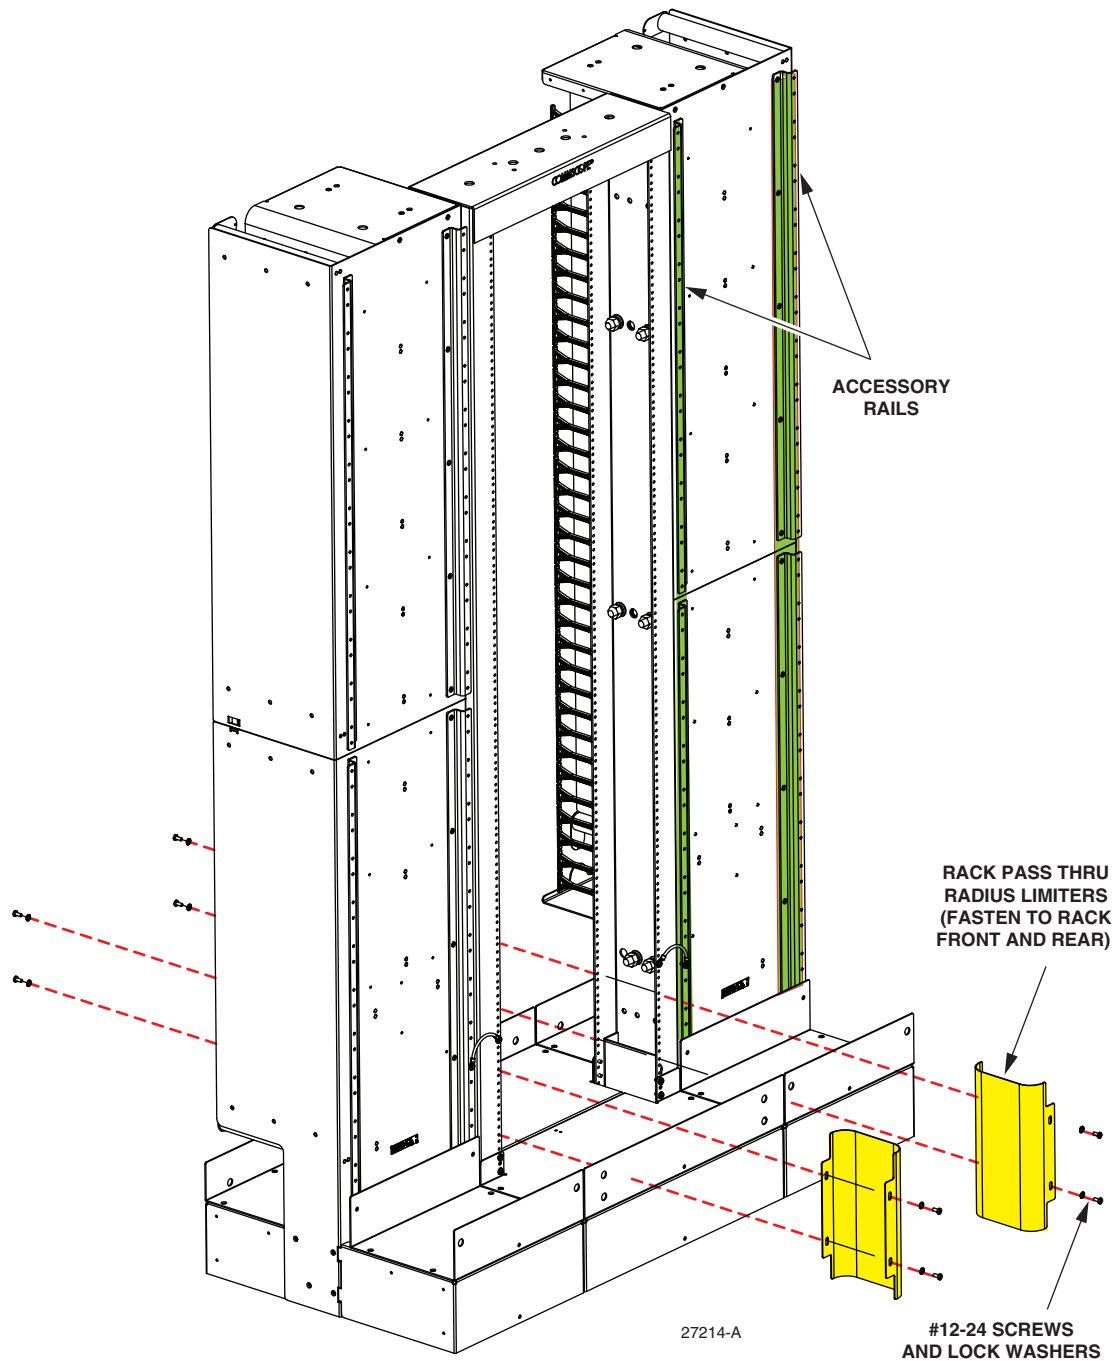

Figure 17. Installing Pass Thru Radius Limiters
3. Fasten the two pass thru radius limiters to the frame using #12-24 screws and lock washers (4 of each on front and rear of the frame), as shown in Figure 17. Align and assemble as shown. Fasten the clamp brackets to the accessory rails.